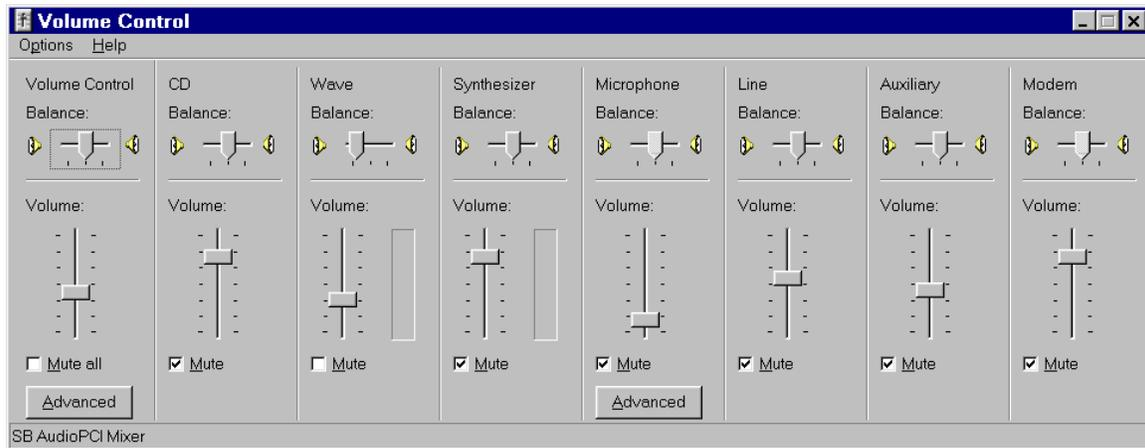

Figure 7.3 PC Tx Volume Control Panel
7.4.1 PC Tx Level Adjust - Go to the Hamscope Screen, and select “Setting/Tx Level Adjust”. The volume control panel for the sound card volume control should appear. On that screen select “Options/Properties”. The Button for “Playback” should be set. In the panel at the bottom, click on all of the sources so you can view their settings. Click “OK”. The full Volume Control panel should appear, and should be similar to the view in figure 7.3, *PC Tx Volume Control Panel*, below.